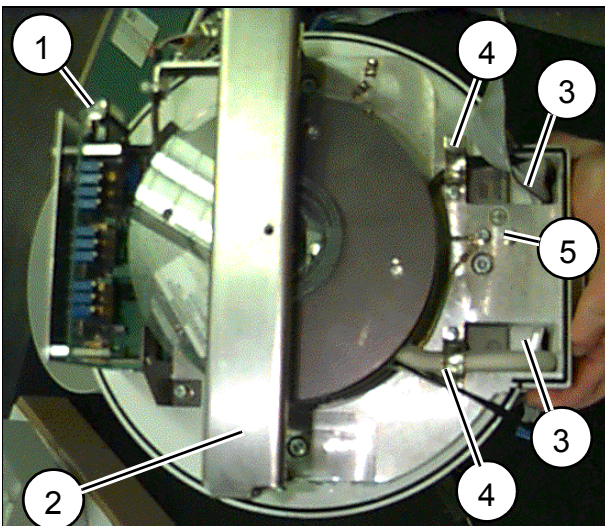
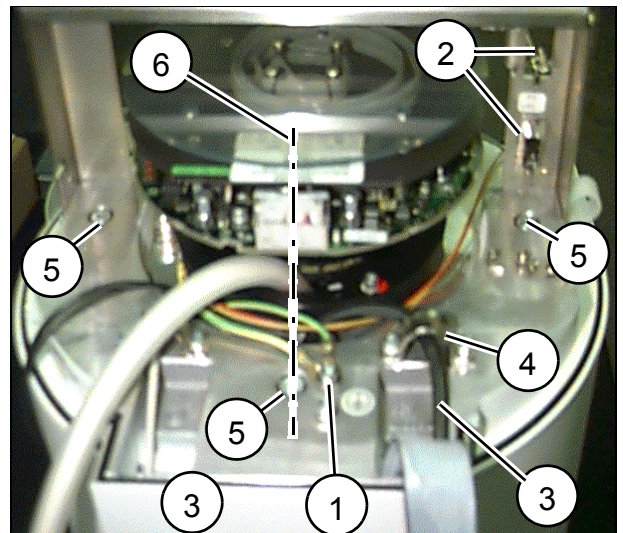
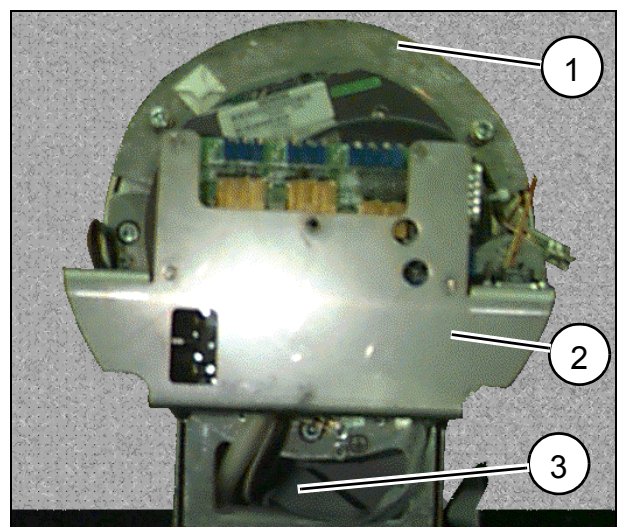

Fig. 1
Fig. 2
Fig. 4
- Rotate the camera to the zero position (6/Fig. 2).
- **17 cm / 7" I.I.** : Remove the counterbalancing weight on the 7"/17 cm I.I. (1/Fig. 4).
- Disconnect the protective conductor connections and the grounding screw (5/Fig. 1 / 1/Fig. 2).
- Remove plug D4.X1 of the VIDEOMED DC (2/Fig. 2).
- Remove plug X45 of the cassette contact (2/Fig. 2).
- Remove both jacks D4.X1 and X45 from the receptacle (2/Fig. 2).
- **17 cm / 7" I.I.** : Pull the "Anode, E3 and Penning" cables leading from the high voltage panel to the I.I. out of the C-arm (3/Fig. 2).
- Loosen the bracket above the camera and remove it (2/Fig. 1 or 2/Fig. 4).
- Remove the cable clamps on the cables (4/Fig. 1).
- Remove the attachment screws from the I.I. mounting. When doing this, hold onto the I.I. (5/Fig. 2).
- Place the VIDEOMED DC in the zero position on the Compact L optics (6/Fig. 2) and clamp it in place.
- Install the bracket above the camera (2/Fig. 1 or 2/Fig. 4).
- **17 cm / 9" I.I.** : Route the cables for the high voltage section back through the recess in the I.I. (3/Fig. 1 or 3/Fig. 4).
Secure the I.I. on the mounting (5/Fig. 2).
- Reconnect the protective conductor to the ground screw (5/Fig. 1).
- Reinstall the cable clips (4/Fig. 1).